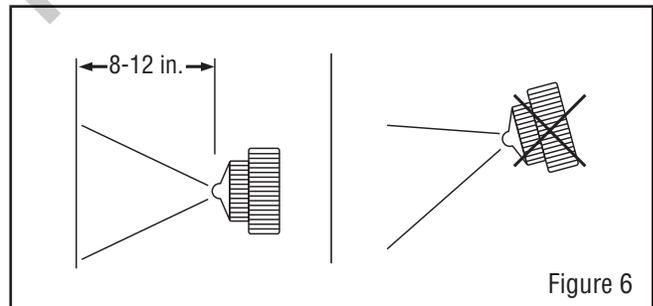

Figure 6
- Keep the spray gun at the right angle of 90 degree to the surface being covered and maintain an even, steady distance and speed. (See Figure 6)